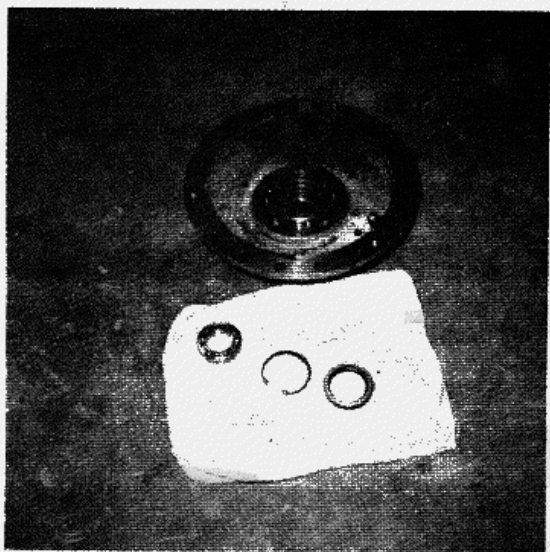

FIGURE 8-7
k. Remove the planetary anchor flange oil seal for replacement. Remove snap ring, dust protector and bearing if it is worn or damaged (see figure 8-7).